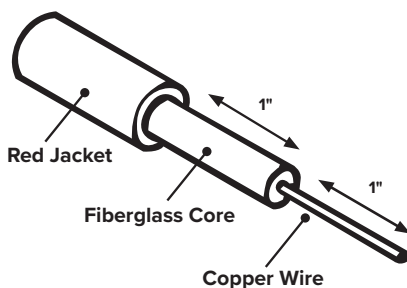

Fig. 1
- Set drag brake to highest amount of drag (Fig. 1).
(Fig. 1)
2. Once jacket is removed, use pipe cutter again to score a mark around fiberglass core approximately 1" from edge of jacket. Use sharp knife to carefully strip away 1" of fiberglass core closest to rod end to expose copper wire. Be careful not to damage wire. The 1" portion of rod closest to jacket will remain intact (Fig.1).